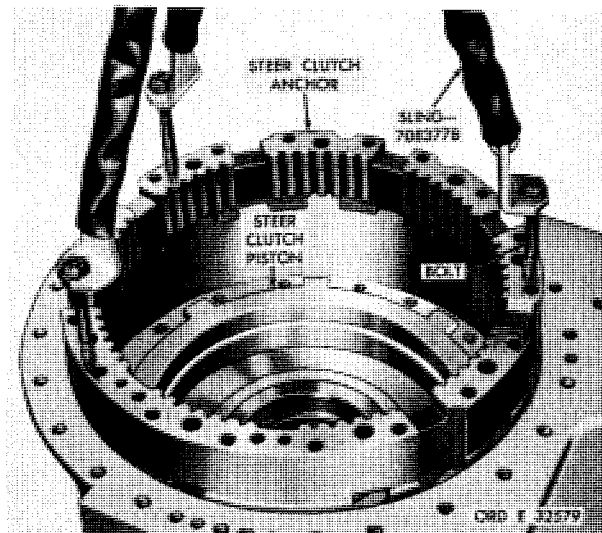

Figure 160. Removing steer clutch anchor
k. Using sling 7083778 and three 7/16-14 bolts, remove steer clutch anchor (fig. 160).
l. Remove steer clutch piston (fig. 160).